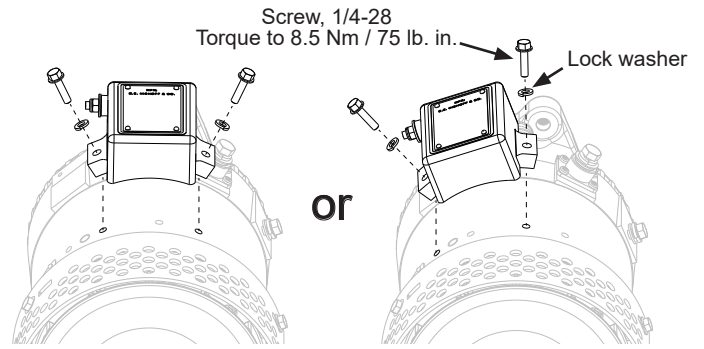

Figure 12: Regulator Mounting Location Options (anti-drive end view)
1. Mount regulator on alternator shell with included screws and lock washers in location best suited to the application. See Figure 12. Torque mounting screws to 8.5 Nm/75 lb. in.